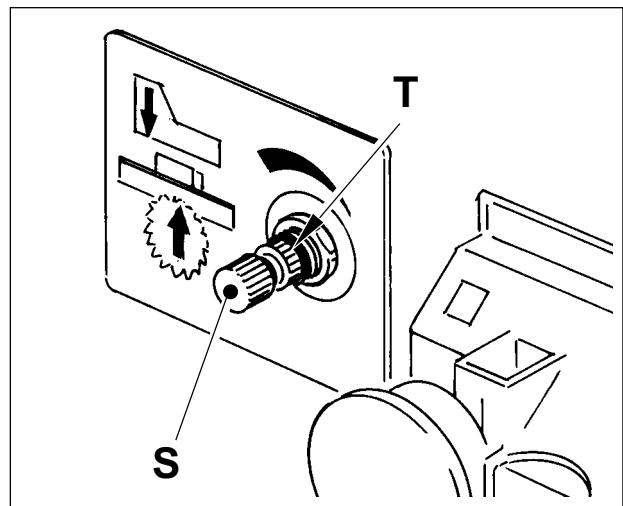

Fig. 4-5 Adjusting speed
4.5 ADJUSTING THE BLADE SPEED FOR CUTTING (Fig. 4-5)